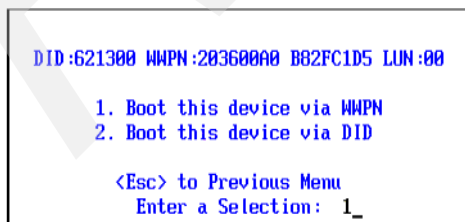

Figure 24-20 Emulex BIOS - Select identifier WWP
5. In the pop-up screen, specify how to identify the boot device. We recommend that you use the WWP for all boot from SAN configurations. Type 1 and press Enter (see Figure 24-20).